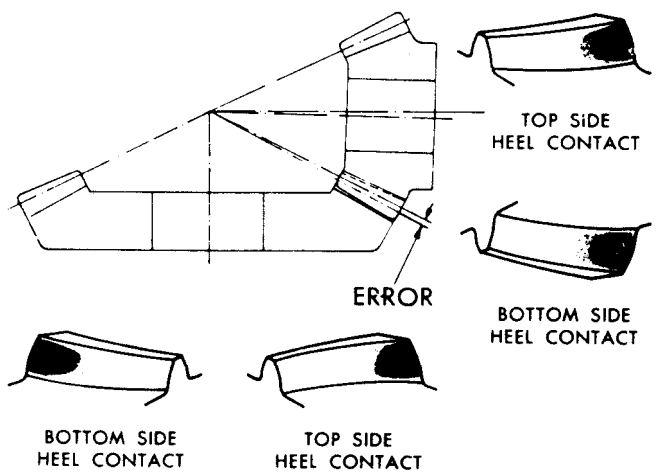

FIGURE 11
- 19.4. When a tooth contact occurs as shown in Fig. 10 of Fig. 11, refer to the following instructions.